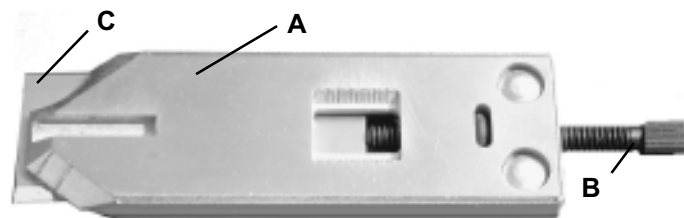
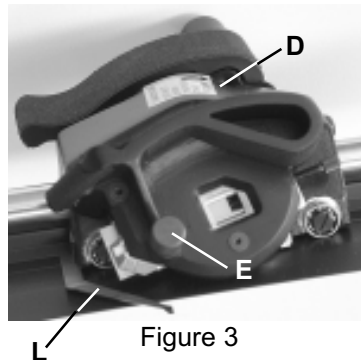

Figure 1
Figure 3
1. Insert a **Blade (C)** in the bevel cutting **Magazine (A)** as shown in Figure 1. The **Blade Extension Screw (B)** should be adjusted so the **Blade (C)** penetrates about 1/3rd the thickness of a slip sheet under the mat being cut. The blade should always rest against the **Blade Extension Screw (B)**, and the **Magazine (A)** must be fully inserted in the **Cutting Head (D)**. Tighten its **Locking Knob (E)** firmly. See Figure 3.
3. The **Sight Gage (L)** shown in Figure 3 is used to control the start of cut and end of cut when using pencil lines drawn on the back of the mat. It is held in place on the **Cutting Head (D)** with a magnet and can be removed and set aside when not being used. The use of this feature is explained on the following page.